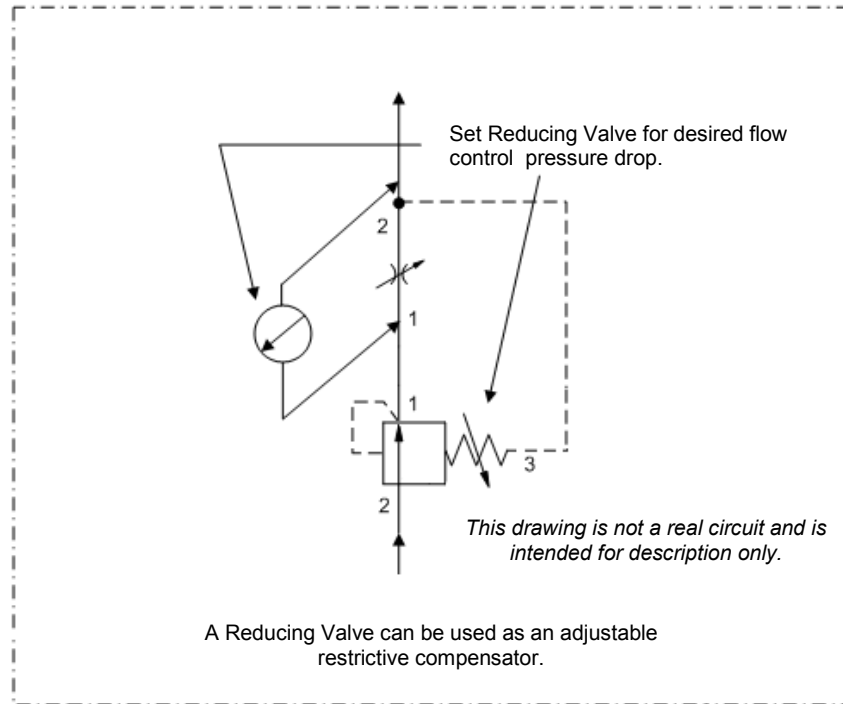

Figure 1.
- A reducing valve can also function as an adjustable restrictive pressure compensator. (See Figure 1.)